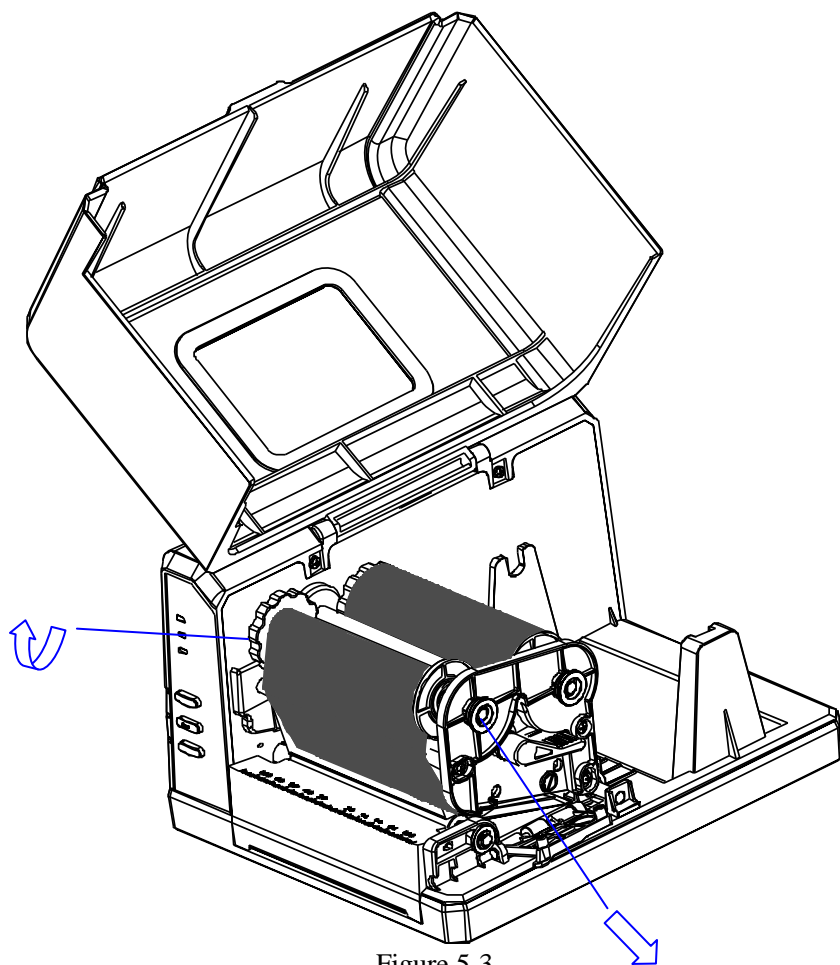

Figure 5-3
5. Turn the Ribbon Take-up Knob clockwise to ensure ribbon is tight and smooth (see Figure 5-3).
6. Close the buckle and turn the handle to the “close” position to lock the Printhead Module (see Figure 5-3).